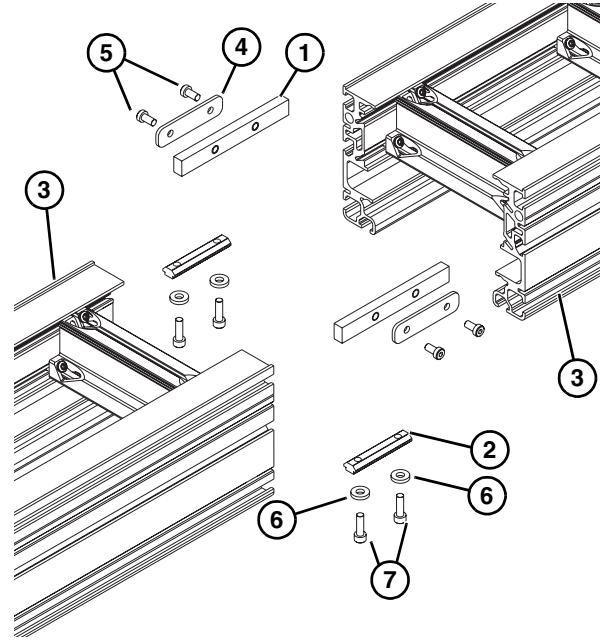

Figure 5
Typical Frame Connecting Components (Figure 5)
2. Install two bar frame connectors (Figure 5, item 1) and two drop-in tee bars (Figure 5, item 2) into one conveyor section (Figure 5, item 3).
3. Join both conveyor sections, and install plate frame connectors (Figure 5, item 4), and secure with M6x12 low head cap screws (Figure 5, item 5) on both sides. Tighten cap screws to 60 in-lb (7 Nm).
4. Install washers (Figure 5, item 6) and M6x20 socket head screws (Figure 5, item 7) into drop-in tee bar (Figure 5, item 2) on both sides as indicated. (Do not tighten hardware. This is for stand installation.)